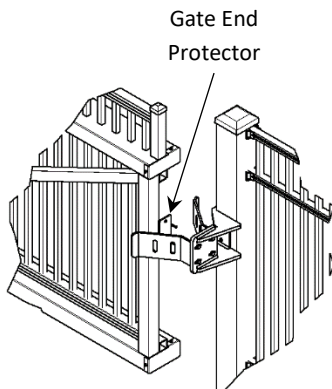

Figure 11
10. Install Gate End Protector. (Figure 11)